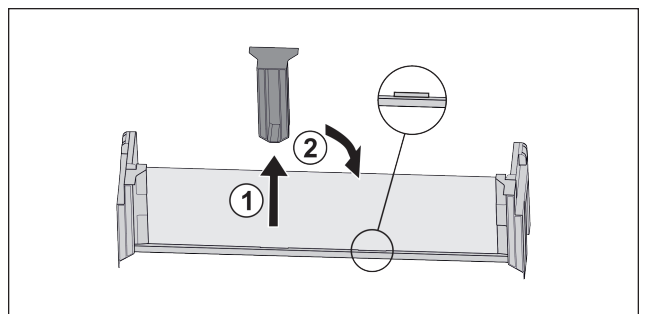

Fig. 76
- ▶ Pull off the middle holder Fig. 76 (1).
- ▶ Insert the middle holder in the second position Fig. 76 (2).